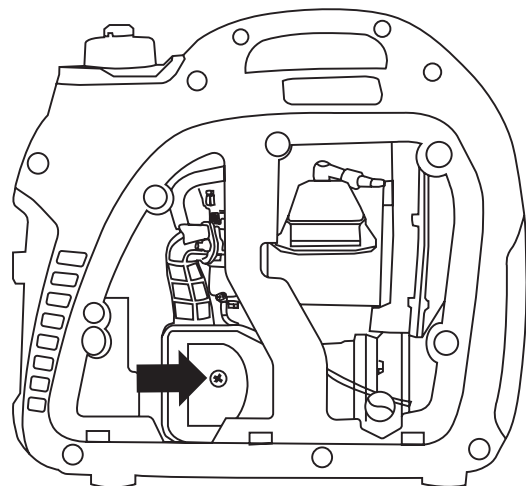

Figure 15: Unscrew air cleaner cover
3. Unscrew the air cleaner cover and tip the cover down (see *Figure 15*).